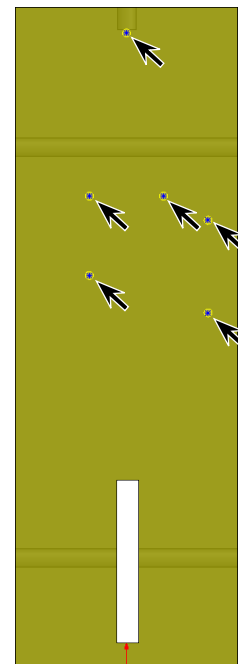

Fig. 33
Step 5. Click to place 6 hole approximately as shown in **Fig. 33**.